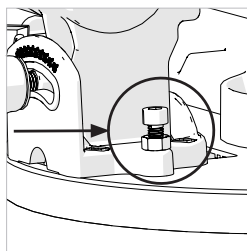

Fig. 32
- Loosen slightly the 45° Bevel Stop Adjustment Screw locknut. (**Fig. 32**)